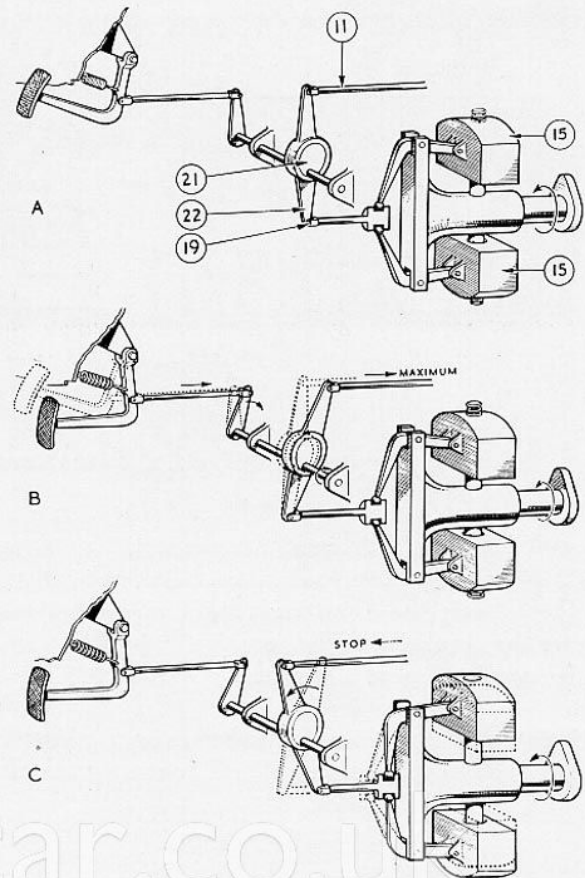

FIG. 2. OPERATION OF GOVERNOR
Operation of the governor is shown diagrammatically in Fig. 2. While the mechanism is at rest, the flyweights (15) lie close to the camshaft sleeve and the injection pump control rod (11) is held towards the maximum fuel position.
Should the accelerator pedal be depressed so that the injection pump delivers more fuel than the engine requires for the load, the engine speed will tend to exceed the predetermined limit and the centrifugal force imposed on the weights will increase sufficiently to overcome the inner spring loading. The weights will now move further outwards (C), (Figs. 2 and 3), and turn the floating lever around the eccentric. The control rod is thereby drawn back to a position of reduced fuel delivery, despite the over-depressed position of the accelerator pedal.